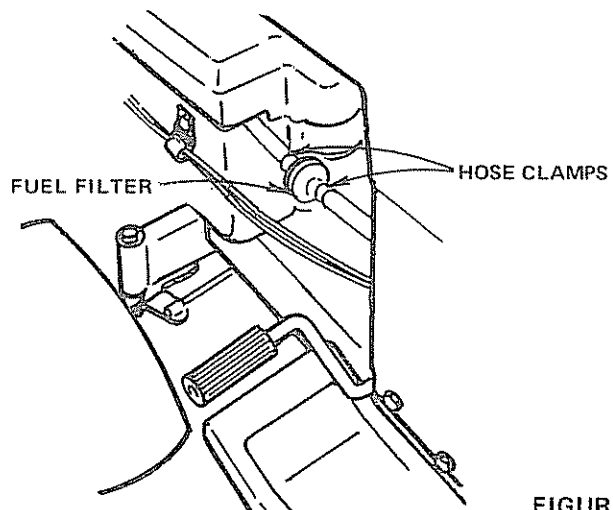

FIGURE 42
- a. Remove Hose Clamps from Fuel Lines at Fuel Filter (Fig. 42).
WILL NOT START Clutch-Brake Pedal in drive position Attachment Clutch Lever in "ENGAGED" position No gasoline in Fuel Tank or clogged Fuel Line or Fuel Filter Blown Fuse Dead Battery Defective Ignition or loose Wiring Spark Plug fouled	Push Pedal into brake position (Fig. 8). Move Lever to "DISENGAGED" position (Fig. 9) Fill Tank with fresh Gasoline. Check Fuel Filter (Fig. 42) and Carburetor (clean if necessary) Check for fault and replace Fuse Recharge or replace Battery Check Wiring Replace Spark Plug and adjust gap (Fig. 40)
HARD TO START Choked improperly, flooded Engine Clogged Fuel Tank, Fuel Line or Fuel Filter Spark Plug fouled Defective Battery Defective Ignition or loose wiring Water in gasoline or old fuel Improper Carburetor adjustment Poor compression	Place Throttle Control in fast position (Fig. 9) and run starter several times to clean out gas Remove and clean. Replace Filter (Fig. 42) Replace Spark Plug and adjust gap (Fig. 40) Recharge or replace Check the wiring and Spark Plug Drain Fuel Tank and Carburetor. use fresh fuel and replace Spark Plug Make necessary adjustments (page 18) Major engine overhaul
ENGINE MISSES OR LACKS POWER Engine overloaded Clogged Fuel Filter Clogged Fuel Tank Partially plugged Air Cleaner Improper Carburetor adjustment Dirty Air Screen Low oil level Spark Plug fouled, improper gap or wrong type Faulty ignition Poor compression Gasoline in oil Dirty Air Cleaner	Shift to a lower gear or reduce load Remove and replace (Fig. 42) Remove and clean Remove and clean (Fig. 36) Make necessary adjustments (page 18) Clean Air Screen, Cooling Fins (Fig. 39) and Muffler Add or change oil (page 15) Replace Spark Plugs and adjust gap (Fig. 40) Check Spark Plugs and for any loose wires Major Engine overhaul Drain Engine oil and refill Remove and clean (Fig. 36)